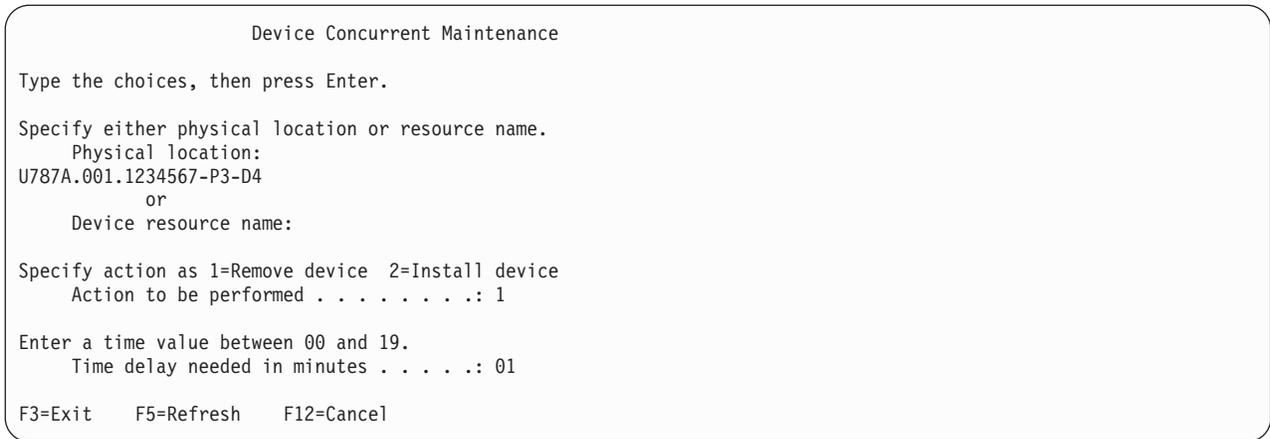

Figure 78. Example Device Concurrent Maintenance display
- If the physical location does not appear in the Device Concurrent Maintenance display, type the physical location where you will be replacing the disk drive as shown in the preceding example, Figure 78.